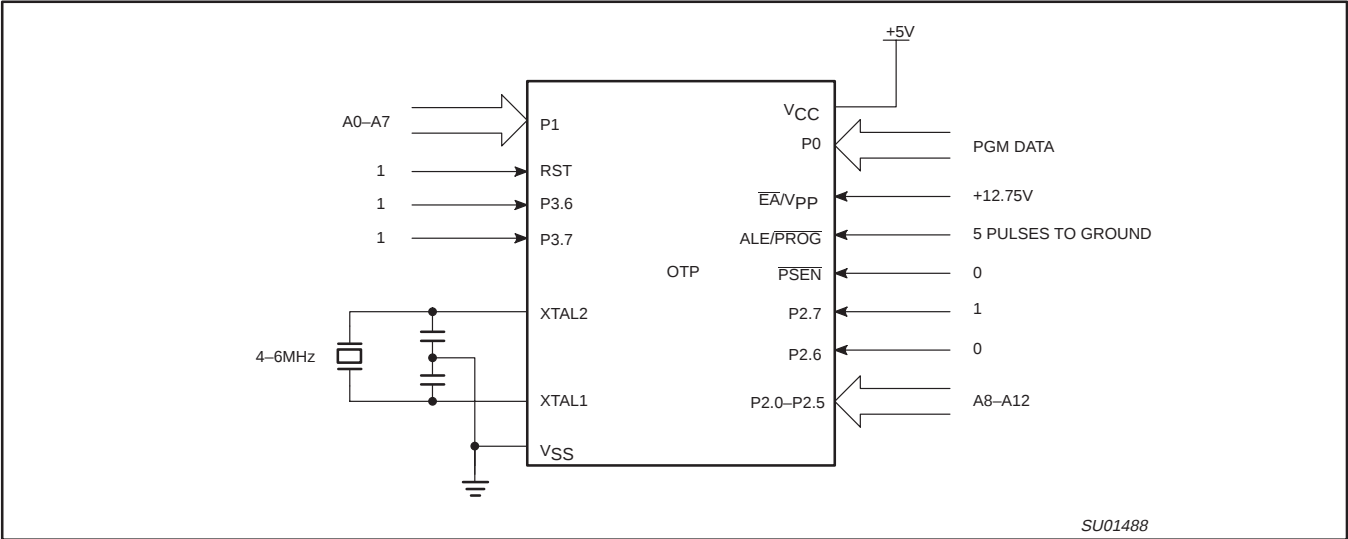
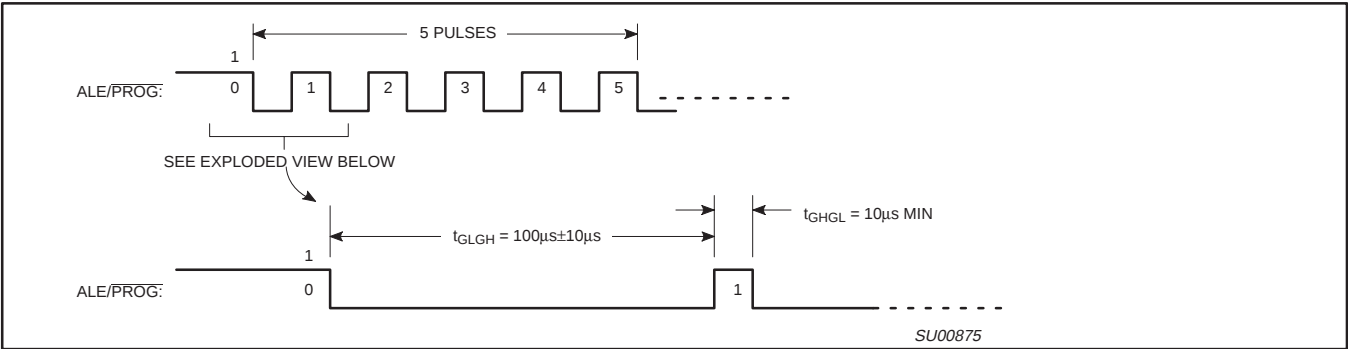
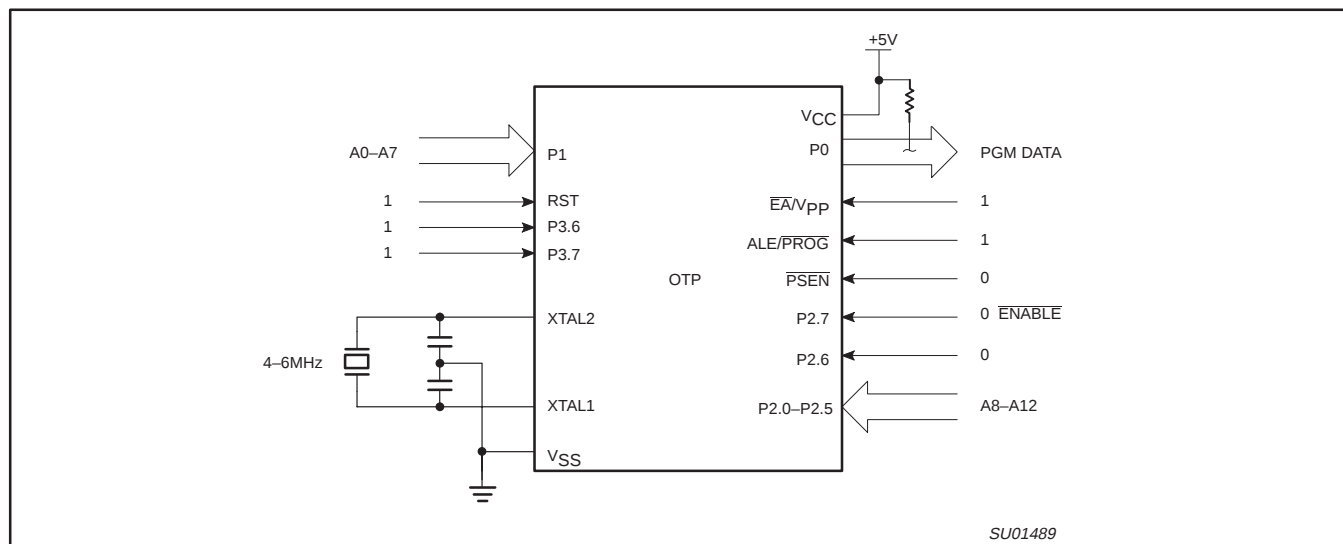

Figure 40. Programming Configuration
Figure 41. $\overline{\text{PROG}}$ Waveform
Figure 42. Program Verification
Table 9 shows the logic levels for reading the signature byte, and for programming the program memory, the encryption table, and the security bits. The circuit configuration and waveforms for quick-pulse programming are shown in Figures 40 and 41. Figure 42 shows the circuit configuration for normal program memory verification.
The setup for microcontroller quick-pulse programming is shown in Figure 40. Note that the device is running with a 4 to 6 MHz oscillator. The reason the oscillator needs to be running is that the device is executing internal address and program data transfers.
The address of the EPROM location to be programmed is applied to ports 1 and 2, as shown in Figure 40. The code byte to be programmed into that location is applied to port 0. RST, $\overline{PSEN}$ and pins of ports 2 and 3 specified in Table 9 are held at the 'Program Code Data' levels indicated in Table 9. The ALE/PROG is pulsed low 5 times as shown in Figure 41.
If security bits 2 and 3 have not been programmed, the on-chip program memory can be read out for program verification. The address of the program memory locations to be read is applied to ports 1 and 2 as shown in Figure 42. The other pins are held at the 'Verify Code Data' levels indicated in Table 9. The contents of the address location will be emitted on port 0. External pull-ups are required on port 0 for this operation.
* FOR PROGRAMMING CONFIGURATION SEE FIGURE 40.
FOR VERIFICATION CONDITIONS SEE FIGURE 42.